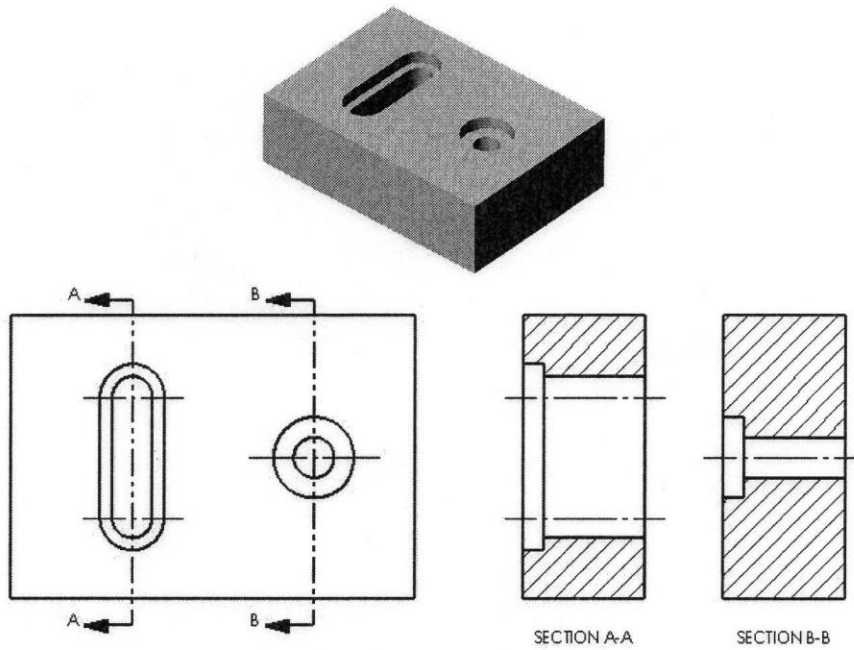

Figure 7. Removed Section.
5. **Removed Sections (Figure 7).**